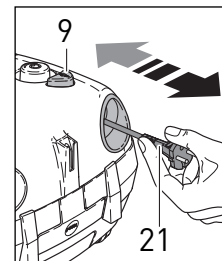
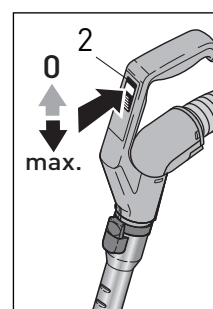

Figure 1
Figure 10
## Starting The Machine - Figures 1, 2 & 3
1. With the canister main power control knob (10) in the OFF position, grasp the plug and pull the power cord (21) out from the power cable recess (figure 1). The power cord (21) should be unwound from the cable reel at least two thirds of its length. **Note:** do not over-extend the cord.
3. Press the main power knob on the base of the canister (10) gently with your foot or hand. A blue light will illuminate indicating that the power is on.
## Operating the Machine - Figures 1, 4, 5, 6, 7 & 8
**To retract the cord,** switch the vacuum off, unplug it from the outlet, then push the power cable rewind button (9, figure 1) and the mechanism will automatically rewind. Before rewinding the cable, always switch off and unplug the vacuum. Hold the plug while rewinding the cord onto the cord reel. Avoid letting the plug whip while rewinding.
## Starting The E3 Premium and Suction Control - Figures 1, 2, 9 & 10
1. With the canister main power control knob (10) in the OFF position, and the power control slider on the handle (2, figure 10) in the OFF position, pull the power cord out from the base of the canister (figure 1). The power cord should be unwound from the cable reel at least two thirds of its length.
4. Slide the Power Control Slider (2, figure 10) toward the MAX position. It will move freely between 0 suction and MAX suction. Set the slider to the suction desired.
## Operating The E3 Premium - Figures 1, 11 & 12
To retract the cord, switch the vacuum off, unplug it from the outlet, then then push the power cable rewind button (9, figure 1) and the mechanism will automatically rewind. Before rewinding the cable, always switch off and unplug the vacuum. Hold the plug while rewinding the cord onto the cord reel. Avoid letting the plug whip while rewinding.